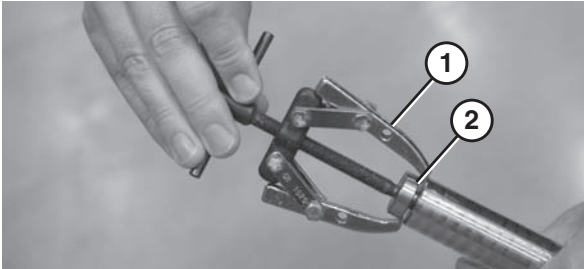

Figure 53
2. Using a bearing removal tool (Figure 53, item 1) remove the bearing (Figure 53, item 2).